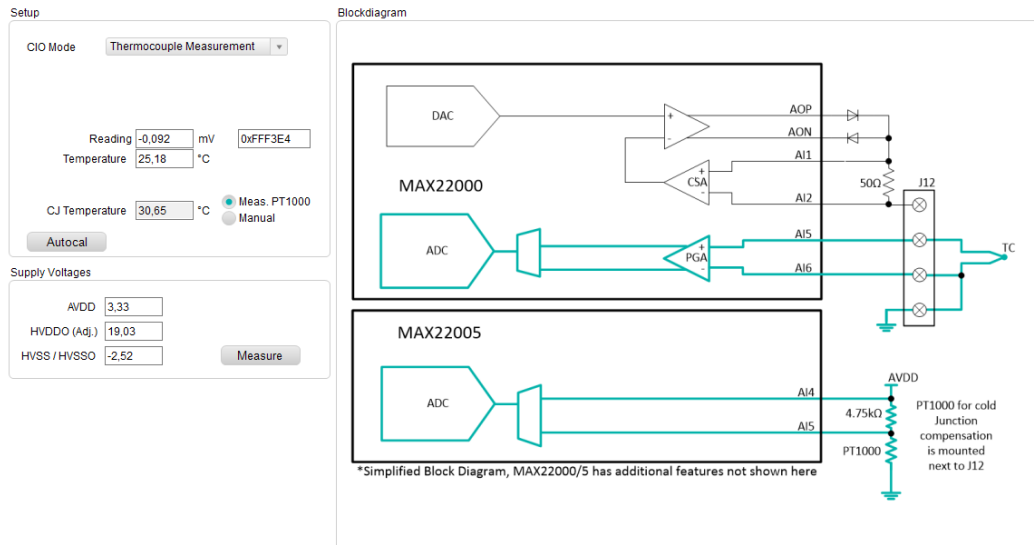

Figure 21. Thermocouple measurement.
30. **Thermocouple Measurement:** In this mode, the temperature can be measured using a thermocouple Type K sensor (**Figure 21**). The GUI will display the voltage between the SNS+ and SNS- inputs (J12 Pin 2 and Pin 3). For this mode of operation, remove any shunts on JP1 and JP2.